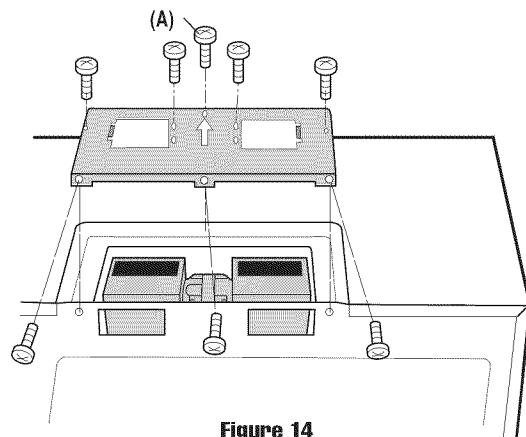

Figure 14
4. Replace the Fan Cover Bracket by sliding it into the slits in the same direction as the arrow on the Fan Cover Bracket. Make sure the fan blades are visible through the top openings in the oven before proceeding. See Figure 14 on page 6.
5. Attach the Fan Cover Bracket to unit with the 3 screws from back edge and 4 screws except screw(A) from the top of the Fan Cover Bracket, which were removed at Step 1 above. See Figure 14 on page 6. Screw (A) will be used at MOUNTING OVEN THE WALL Step5 on page 7. The Hood Fan Unit is now rotated for vertical exhaust operation.